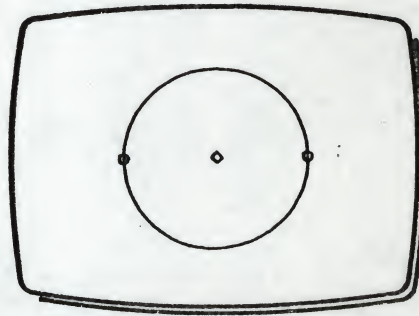

Fig 3
- 3 Two small cursors will mark the circumference of the circle and a small diamond will mark the centre of the circle (Fig 3).